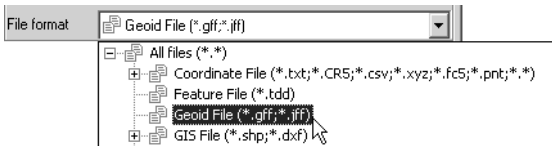

Figure 3-76. Geoid File Format
- Select the File format (Figure 3-76).